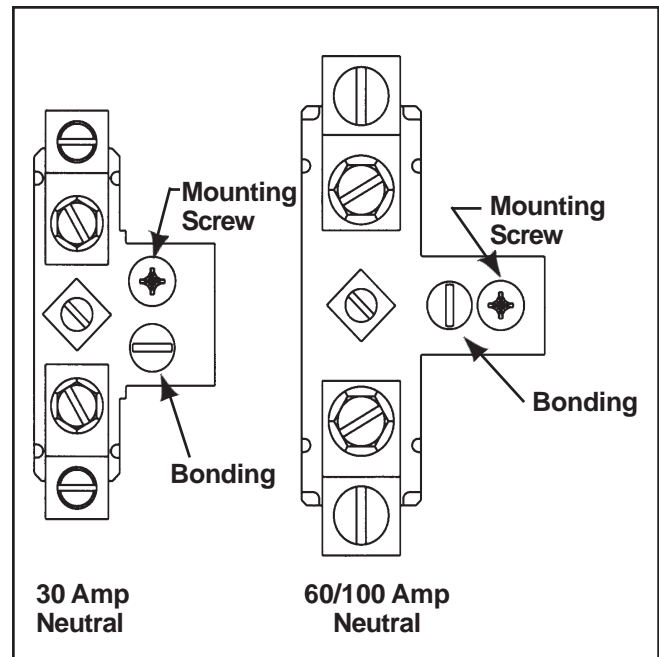

Fig. 2
6. Re-install Neutral on Line Base. Torque mounting screw and bonding screw (if bonded) to 29 lb.-ins. See Fig. 2 for bonding screw location.